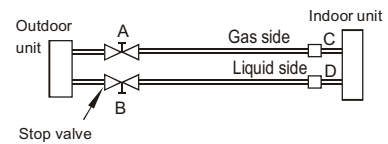

Fig. 7-6
1. Loosen and remove the service port nuts of valves A and B, and connect the charging hose of the manifold valve to the service port of the isolation valve A. Ensure that the isolation valves A and B are both closed (Fig. 7-6).